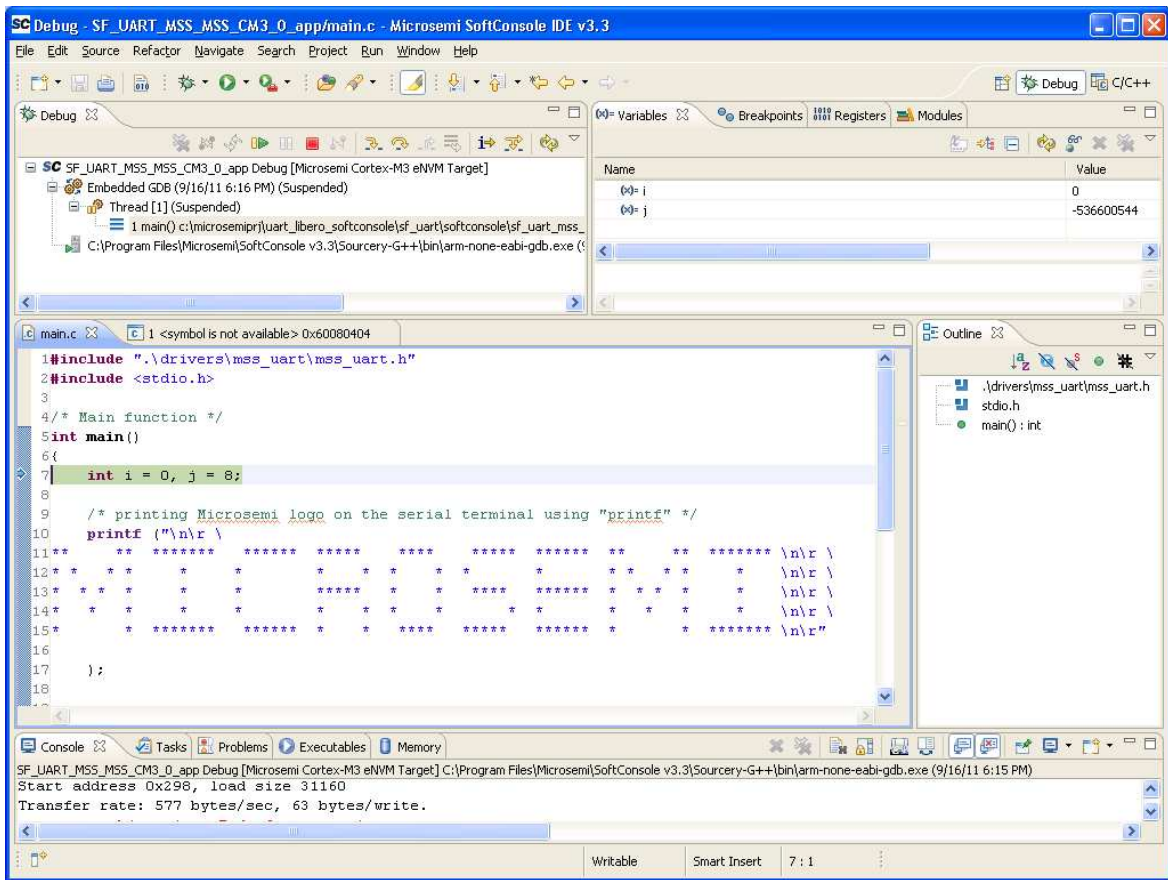

Figure 37 · The SoftConsole Debug Perspective
15. The SoftConsole Debug Perspective screen is displayed, as shown in Figure 37 . .